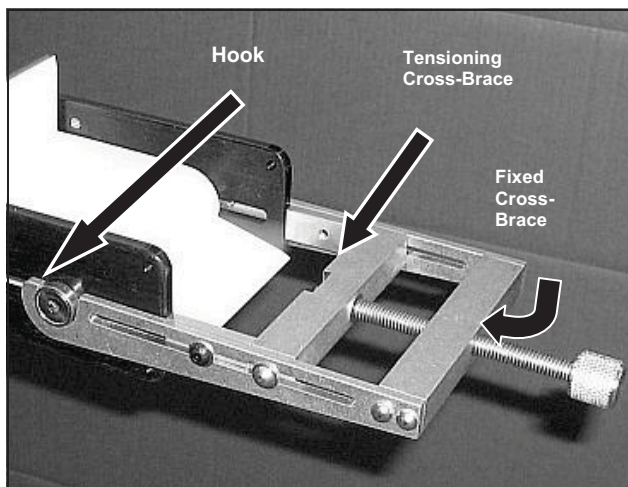

Fig. 4 — 1-knob tensioning tool (belt widths ≤ 10 in.)
2. Install the belt tensioning tool with hook connector over the belt tension lock screw washers. (See arrows, figs. 4 & 5.)
3. Turn the knurled adjustment knob(s) on the tensioning tool clockwise until the tensioning cross brace is against the conveyor siderail ends. On the 2-knob tensioning tool, alternately turn the knobs on either side in $\frac{1}{2}$ -turn increments to maintain equal distance between fixed and tensioning cross-braces. (See arrows, figs. 4 & 5)